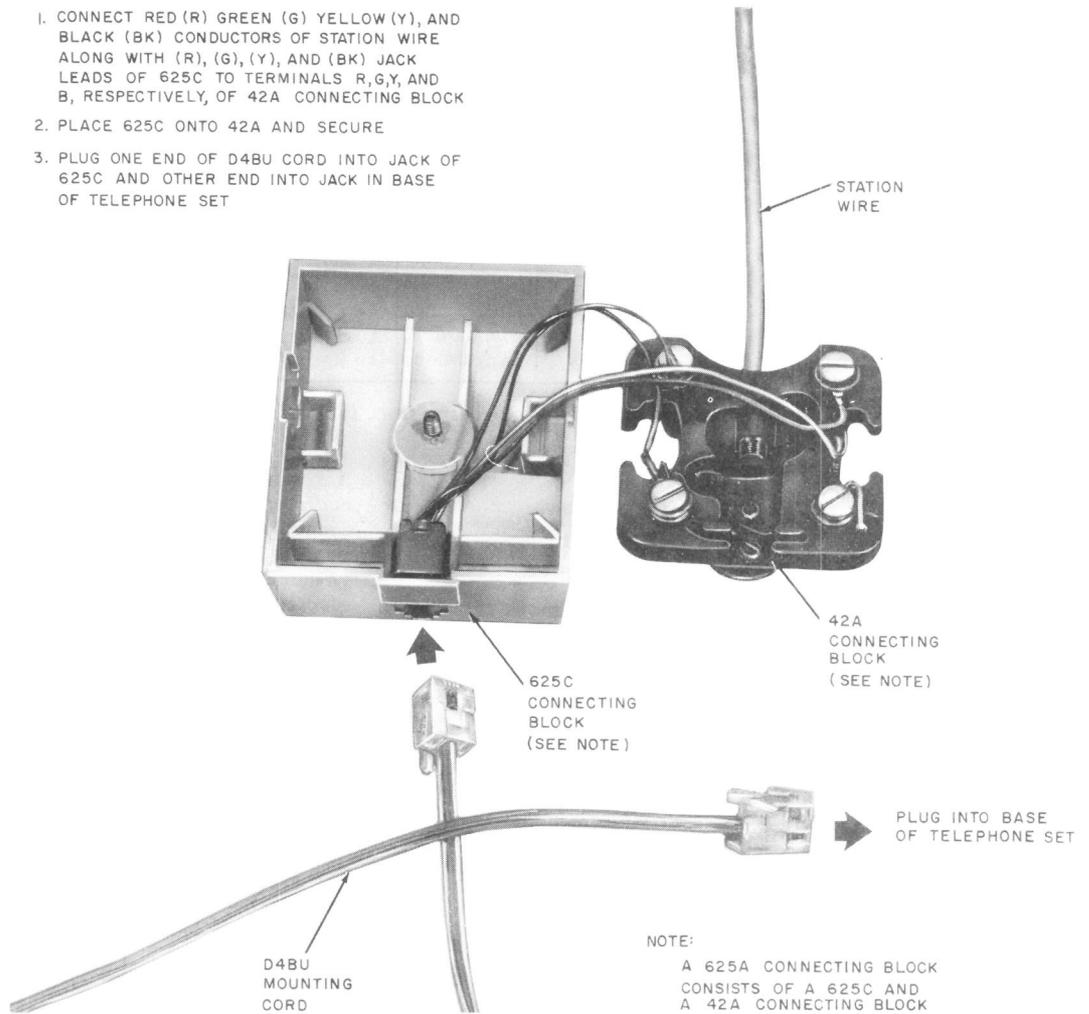

Fig. 2—Installation of 625A Connecting Block
3.01 Terminate the local loop into a connecting block suitable for the D4BU-29 mounting cord, but do not connect the mounting cord at this time. The use of a 625-type connecting block (Fig. 2) is recommended. For information on other